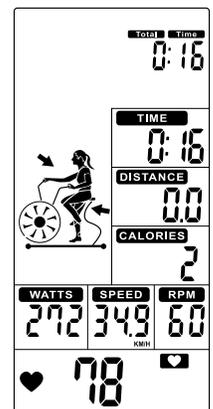

Figure 18
2. If a pulse signal is detected, the heart icon (♥) will light up, and the symbol will flash, displaying the pulse value (see Figure 18). If no pulse is detected, the display will show "P."